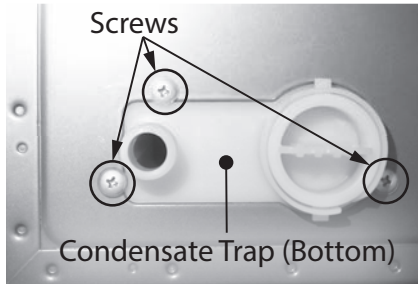

Figure 236 - Location of condensate trap screws.
- 21 Locate the three (3) screws at the back left corner of the cabinet that secure the condensate trap. See Figure 236. Use a Phillips screwdriver to remove the screws. Place screws aside in a safe place for reinstallation.